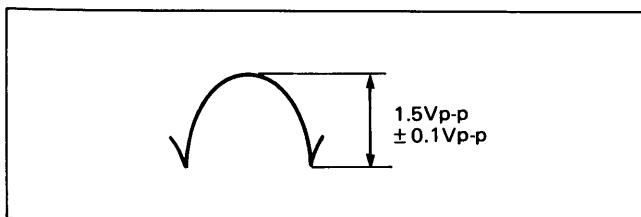

Fig. 27
- 6) Adjust H. Para. waveform Adj. VR (R7055) to achieve waveform as shown in Fig. 27.